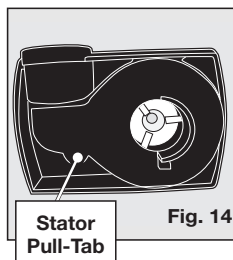

Fig. 14
- Next, remove the stator by placing your fingernail underneath the small lip located on the narrow side of teardrop-shaped stator (**Fig. 14**) and pull out to remove.